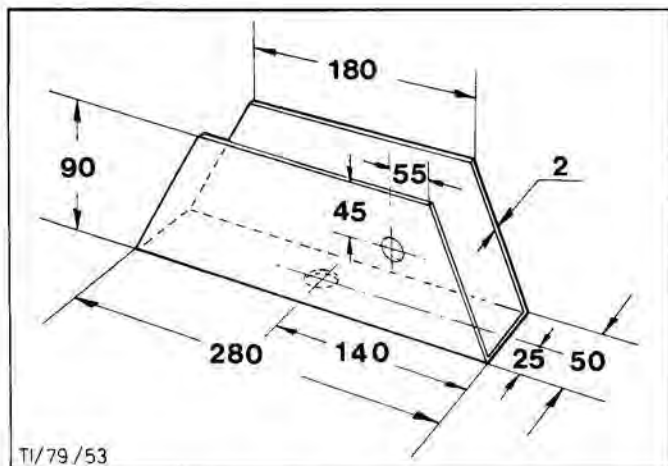

Fig.89. Make up internal shoe.
10. Make up internal shoe as per Fig.89.